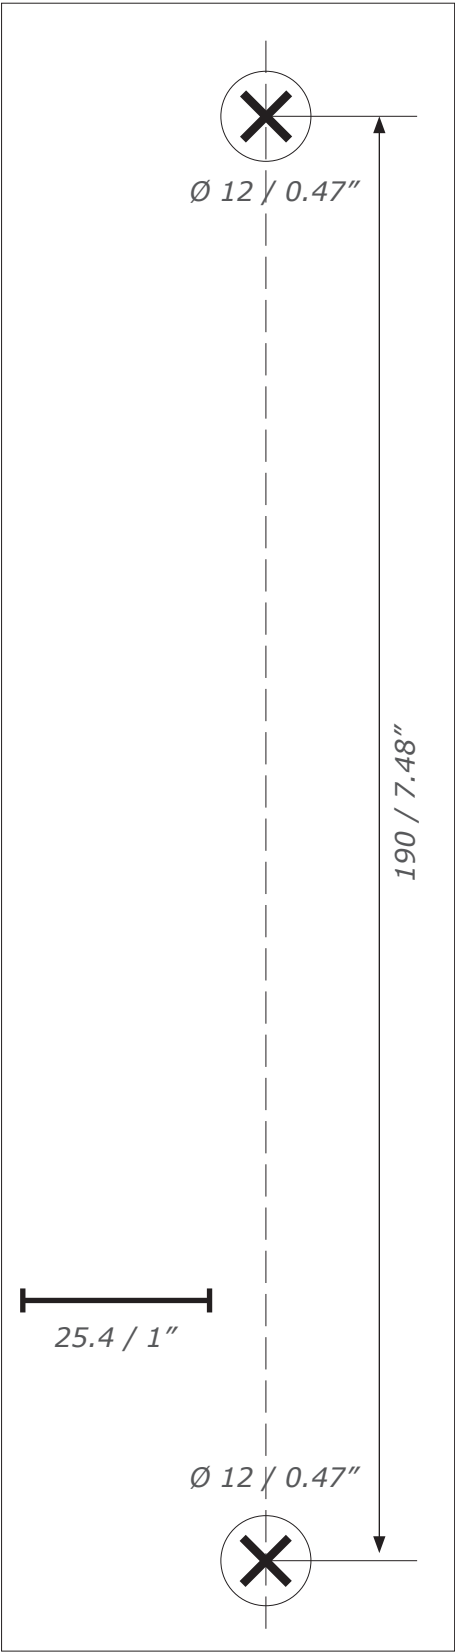

Fig. 19a
- 8.1.2 Position the mounting assembly as planned. For the distance between the drill holes see the drilling template (Fig. 19a).